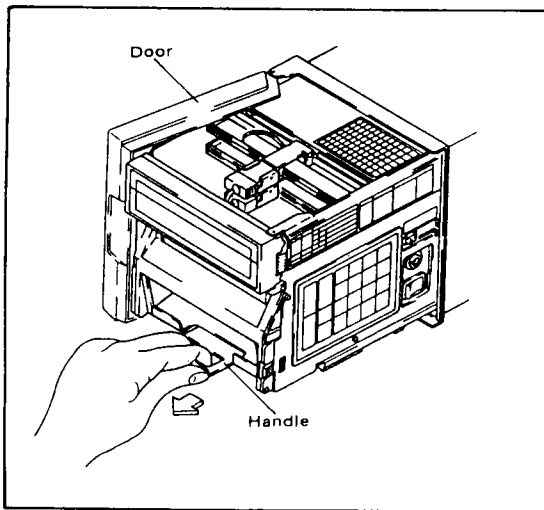

Figure 5-12.
- (1) Open the unit front door by inserting fingertips into the recessed area on the right side near the front and pull outward. Grasp the internal unit handle located at the lower front of the unit and pull the internal assembly as far out as possible. (See Figure 5-12.)